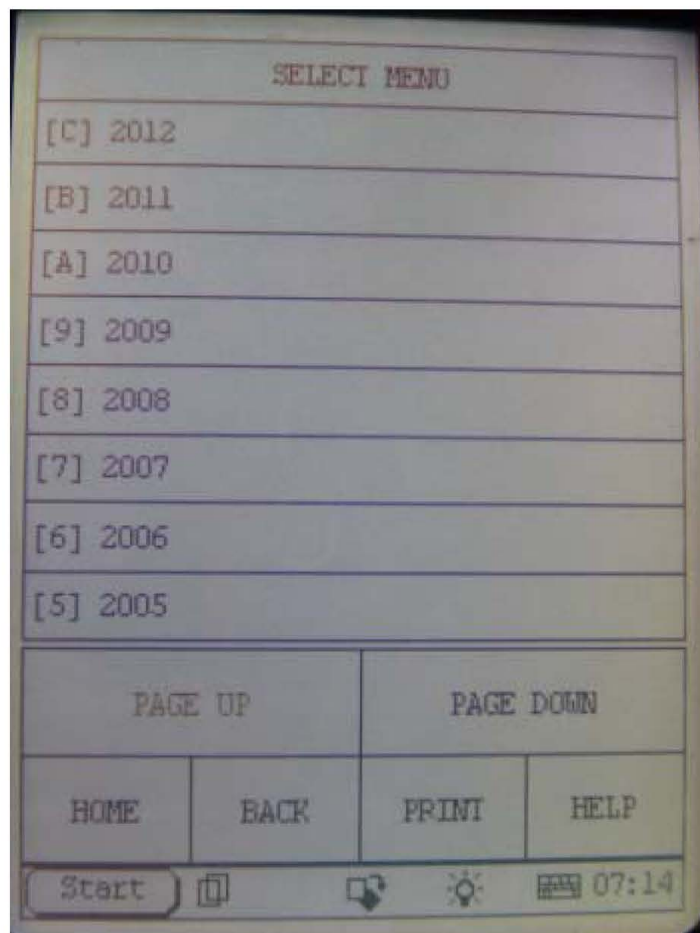

Figure 3
2). After accessing, select diagnosis and select the model year according to the 10th character of VIN code (see Table 1). For model year, see Figure 3.